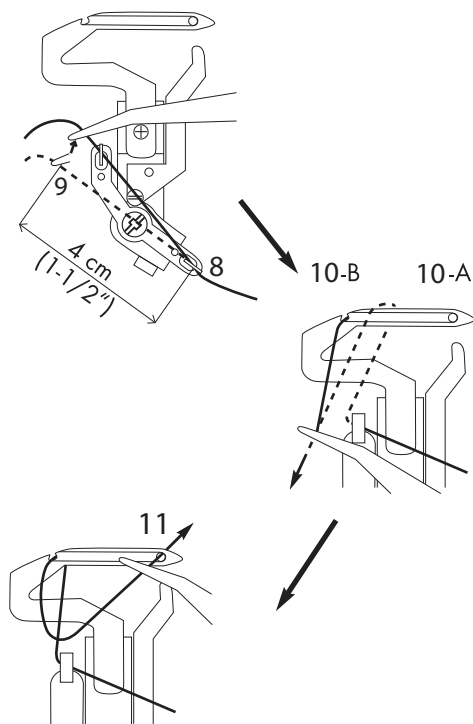

Fig. 23
6. Firmly hold the yarn with the tweezers about 4 cm from the thread guide (Fig. 23).
8. Pull the yarn upwards into the thread guide (9).
9. Lead the yarn to the rear and over the upper end of the lower looper ⑳ (10A) (Fig. 23).
10. Then, carefully pull the yarn down so that it slides into the recess of the looper (10B) (Fig. 23). For this step also use the drawing which is attached to the machine!
11. Guide the thread through the looper eyelet (11). The yarn should run in the groove of the lower looper ⑳ (Fig. 23).
12. Draw around 10 cm of yarn through the looper and place it to the rear **over** the upper looper ⑑ and the stitch plate ⑬.